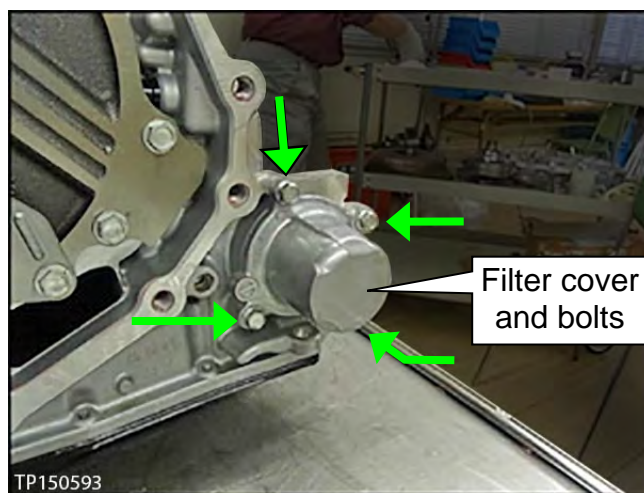

Figure 79
2. Install the filter cover (see Figure 79).